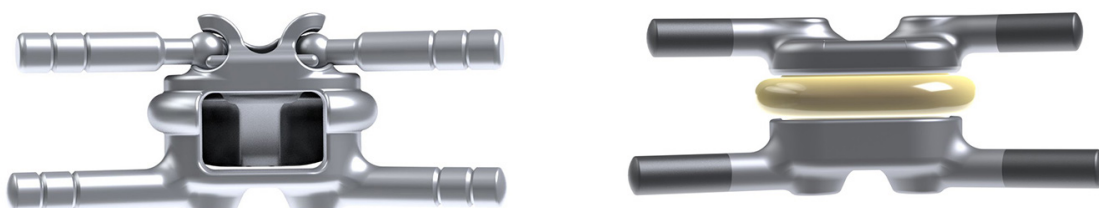

Figure 15: The base of the Gauge Handle (Left) is identical to the TOPS Motion Implant (Right).
- i. The Gauge Handle of the Alignment Gauge serves as a decompression template and an implant size trialer (Figure 15).